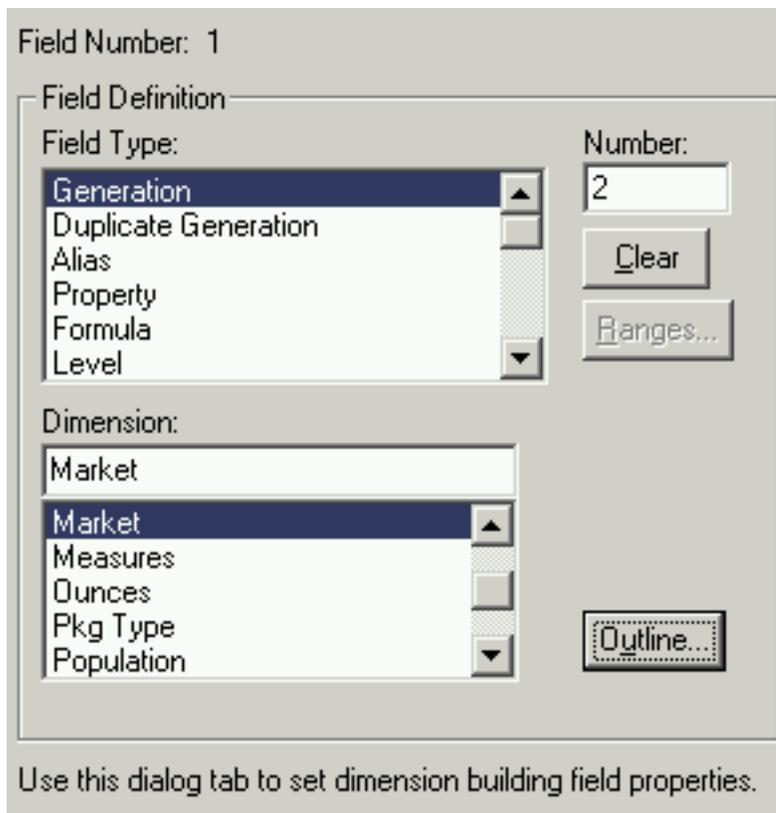

Figure 10: Definition for the region field
- Figures 10 - 12 provide the values that were entered for each of the generations under the **Dimension Build Properties** tab. Notice this corresponds with the generation information in the Application Overview section.